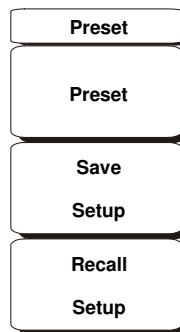

Figure 4-18. Preset Menu Soft Keys
To access the functions under the Preset menu, select the **Shift** key, then the **Preset** (1) key. The Preset menu soft keys are shown in Figure 4-18.